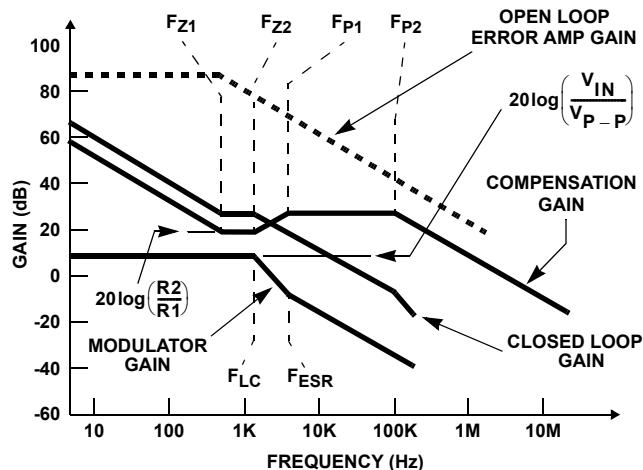

FIGURE 12. ASYMPOTIC BODE PLOT OF CONVERTER GAIN
Figure 12 shows an asymptotic plot of the DC-DC converter's gain vs. frequency. The actual Modulator Gain has a high gain peak dependent on the quality factor (Q) of the output filter, which is not shown in Figure 12. Using the above guidelines should yield a Compensation Gain similar to the curve plotted. The open loop error amplifier gain bounds the compensation gain. Check the compensation gain at F_{P2} with the capabilities of the error amplifier. The Closed Loop Gain is constructed on the log-log graph of Figure 12 by adding the Modulator Gain (in dB) to the Compensation Gain (in dB). This is equivalent to multiplying the modulator transfer function to the compensation transfer function and plotting the gain.